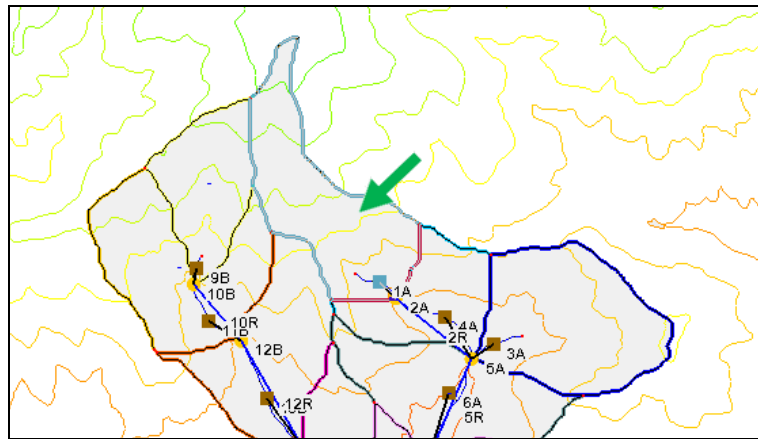

Figure 3 The most upstream basin (indicated by the arrow)
1. Using the **Select Basin**  tool, select the most upstream basin (Figure 3).